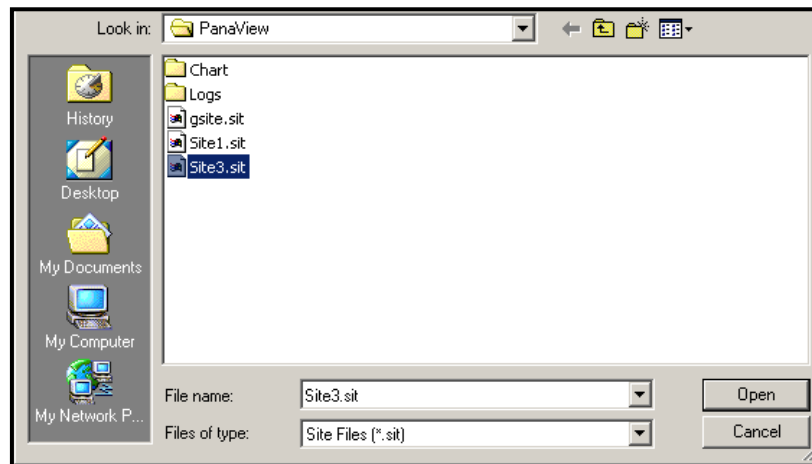

Figure 32: *Site File Selection*
2. Then click on the *Save Site to Meter* button. A screen opens similar to Figure 32 below.
3. The *Site File Selection* window (Figure 32 on page 102) opens. Highlight a site with the desired settings, and click [Open]. PanaView saves the site in the meter with the new name and the desired settings.
3. The *Site File Selection* window (*Figure 32* on page 102) opens. Enter the desired site name (now with a .prt suffix) and click [Save]. PanaView displays a text version of the site, as shown in *Figure 34* below.